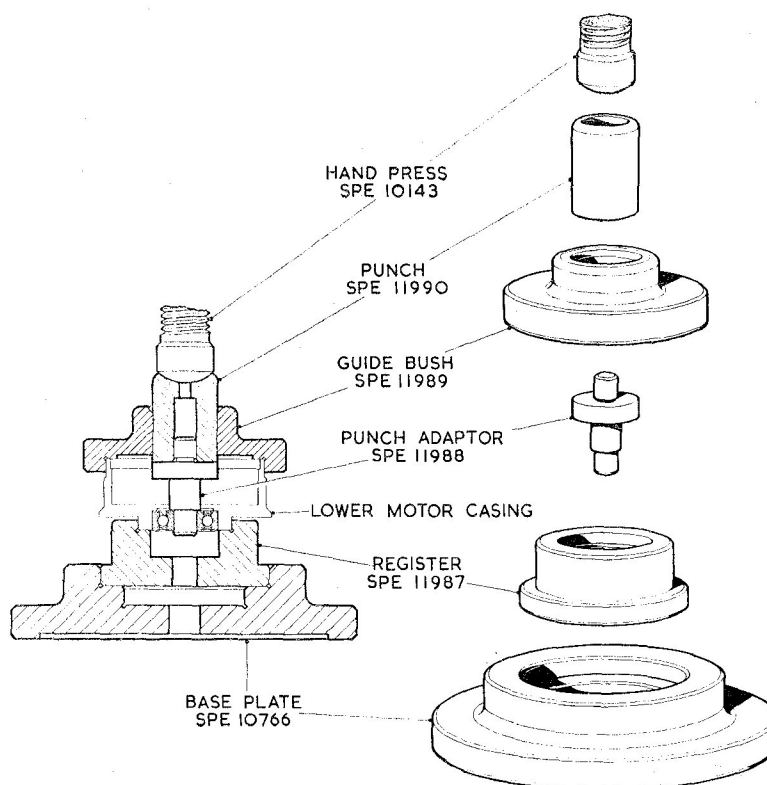
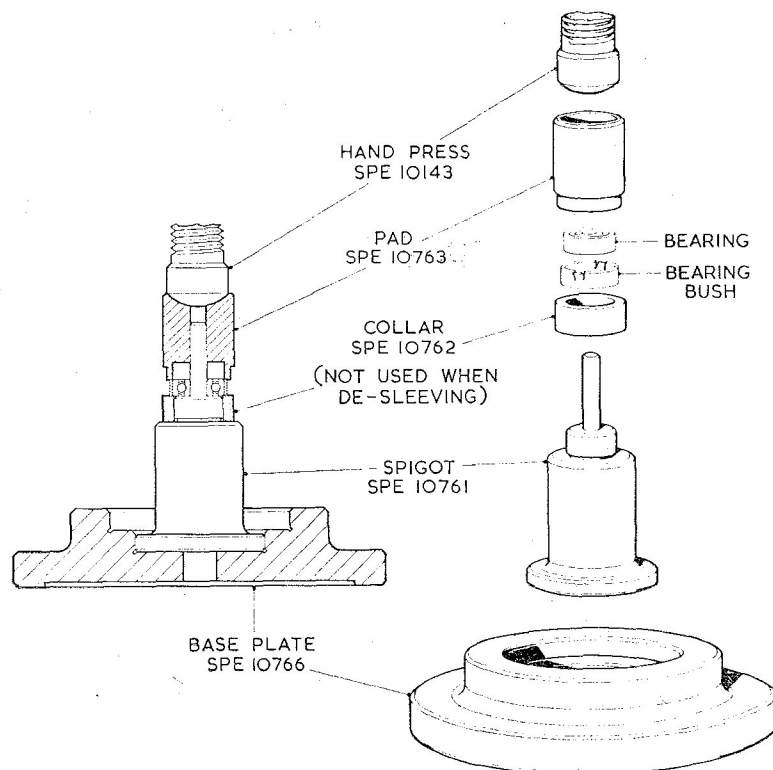

Fig. 12. Removing the lower motor casing bearing
Fig. 13. Tools for re-sleeving the motor upper bearing
(9) Remove the 6 BA screws (14) and spring washers (15) holding the bearing cover (12) and remove the bearing cover. Remove the drive end bearing (16) from its housing in the lower motor casing, using the tools illustrated in fig. 12 mounted in the hand press SPE.10143.
(10) Remove the commutator-end bearing (26) together with the steel sleeve, by pushing it outwards through the end casing.
(11) If necessary, remove the bearing (26) from the sleeve (27) using the fixture and tools shown in fig. 13.
19. (1) Assemble the bearing (26) into the steel sleeve (27) using the special tools illustrated in fig. 13 mounted in a hand press.